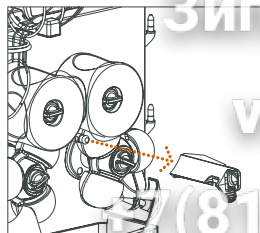

Fig. 8
- 5 Remove the Blade holder (9) and clean it carefully taking care not to hurt yourself.
- Remember that each peel ejector (Fig. 8) only fits on one side and so they are not interchangeable. When you place them make sure that you insert the peel ejector paddle right down to the end of the lower pressing unit.